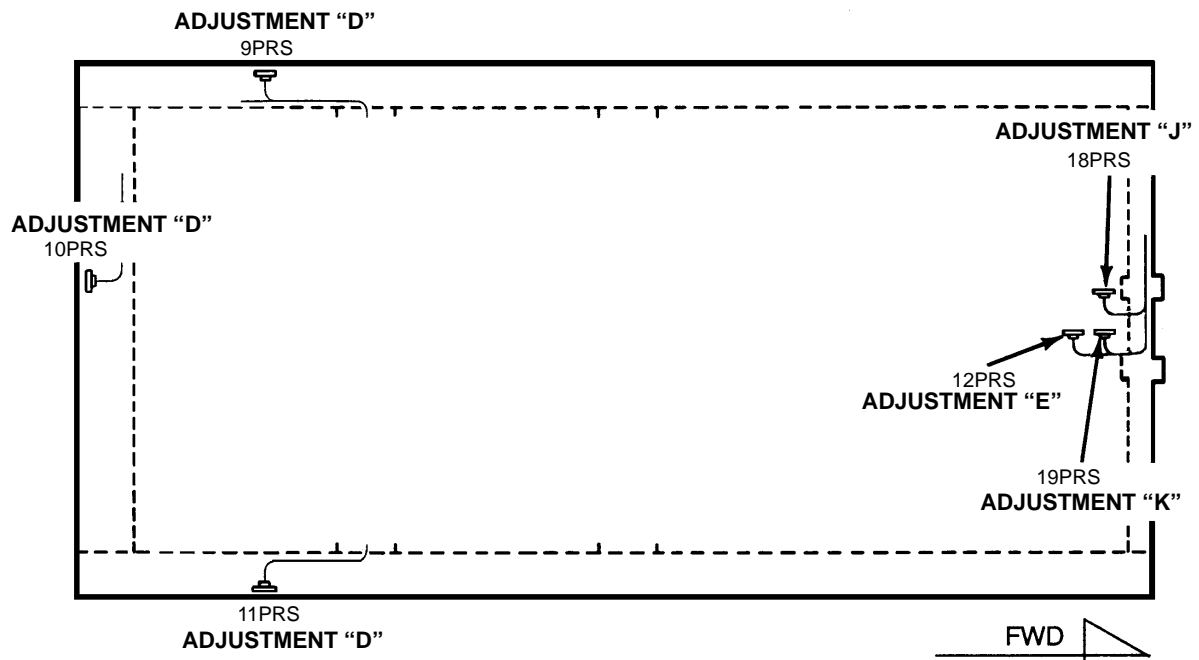
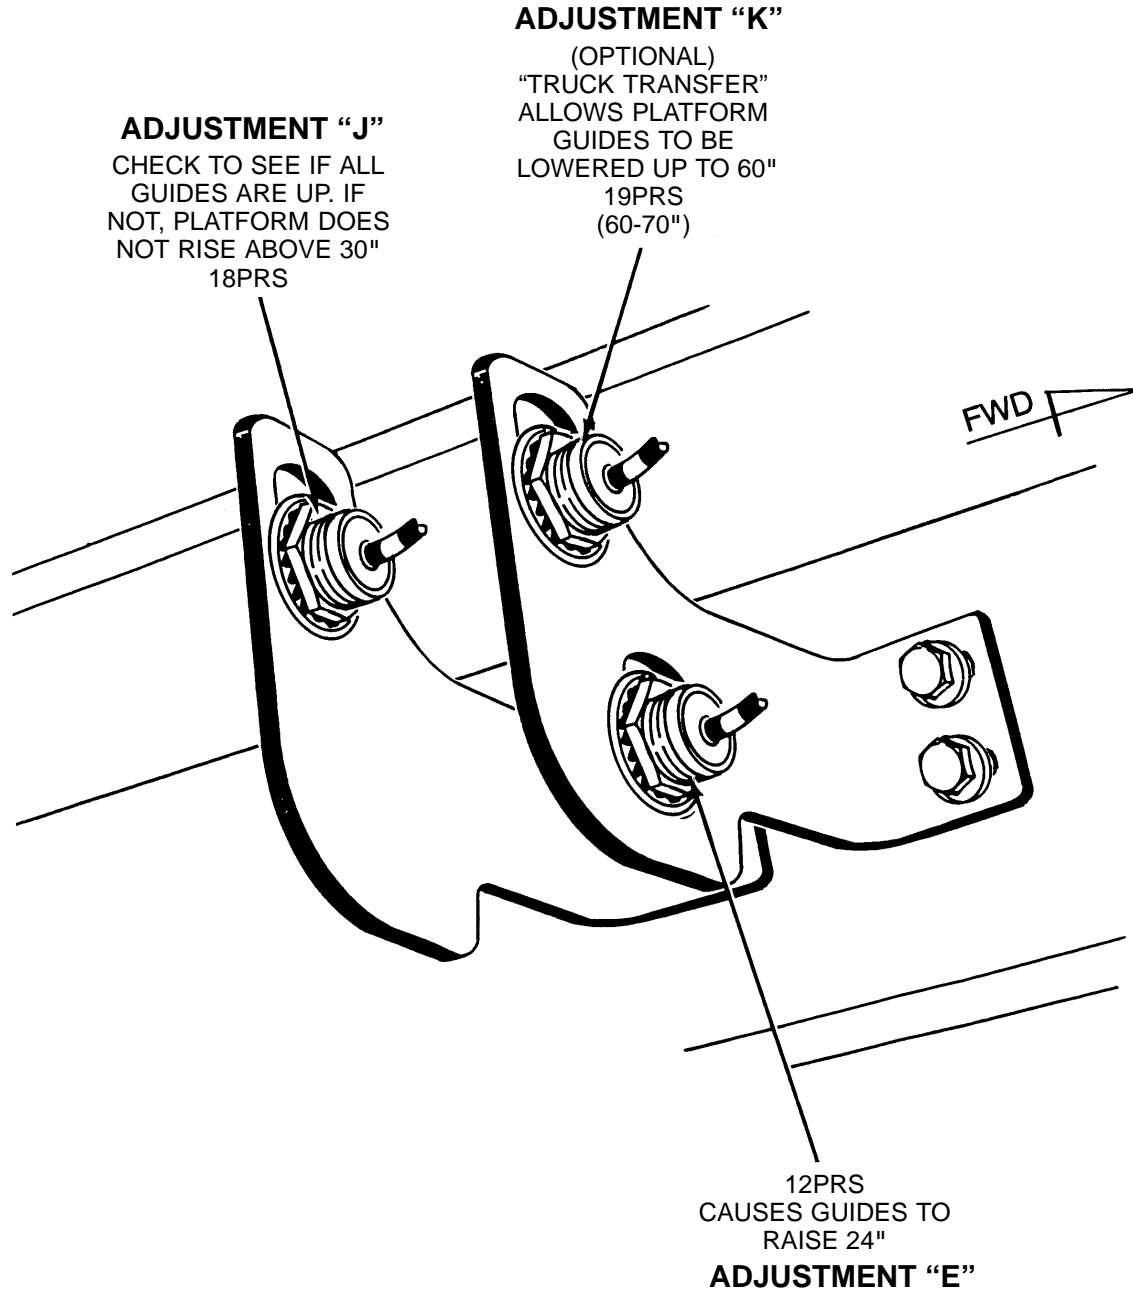

Figure 30
Figure 31
D. 9PRS, 10PRS, 11PRS Proximity Switches (Guides Proximity Switches) (Figure 30)
E. 12PRS Proximity Switch (Tells Guide To Raise), Platform Below 610mm (24") (Figure 31, Figure 30)
- (1) 12PRS proximity switch is located underneath forward section of platform.
- (2) Start power unit and raise platform exactly 610mm (24") and shut power unit down.
- (3) Turn MASTER START SWITCH to ON position and place MODE SWITCH in OPERATE. **DO NOT START POWER UNIT.**
- (4) Position proximity switch in slotted bracket until LED indicator light (on side of proximity switch) just actuates on when sensing the actuating arm. Tighten locknut securely after adjustment.
- (1) Turn MASTER START SWITCH ON and place MODE SWITCH in OPERATE – **DO NOT START POWER UNIT.**
- (2) With stops in full UP position, switch face 2-3mm (1/16-1/8") from stop wide shoulder face.
- (3) Check to see LED's are illuminated.
- (4) Verify LED's go out when stops lower.
J. 18PRS Proximity Switch (Verify that all guides are up; if not, platform will not raise above 30"), Platform Below 760mm (30") (Figure 31, Figure 30)
(6) Start power unit and lower platform, then shut down power unit.
(7) Close bridge panel door and replace walk deck on platform.
- K. 19PRS Proximity Switch (Truck Transfer Height Option), Platform Below 1525mm-1780mm (60-70") noted on Customer Specification Drawing (Figure 31, Figure 30)